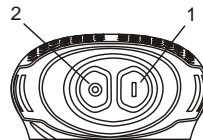

Fig. 6
To turn the switch ON, press the right hand side of the ON/OFF switch (1) (Fig. 6). To turn the switch OFF, press the left hand side of the ON/OFF switch (2).